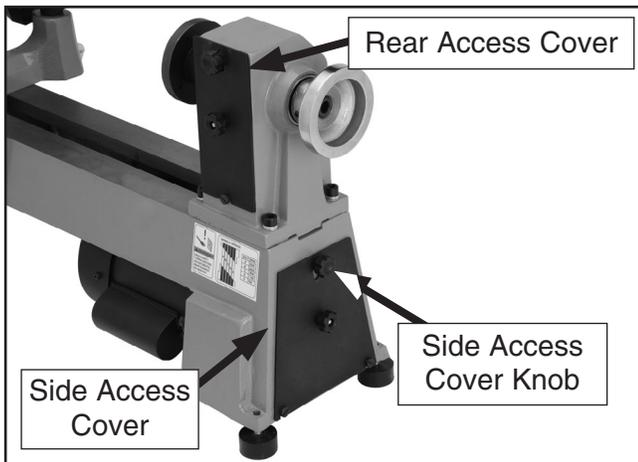

Figure 10. Side and rear access covers.
3. Open the side and rear access covers (**Figure 10**).